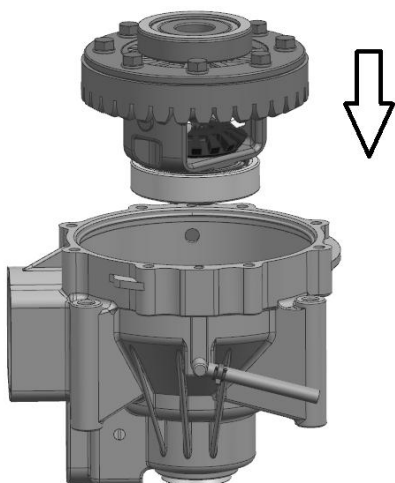

Fig 17
8.Install the differential assembly into the carrier housing. →Fig 17